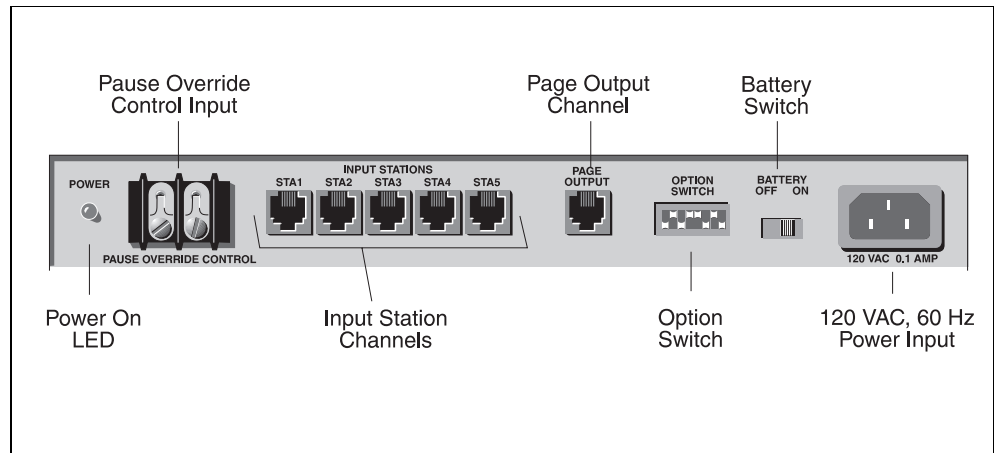

Figure 3-1. Rear Panel Detail
- Set the option switch on the Call Stacker (see Figure 3-1 on page 3-2) for the desired system configuration (refer to Table 2-1).